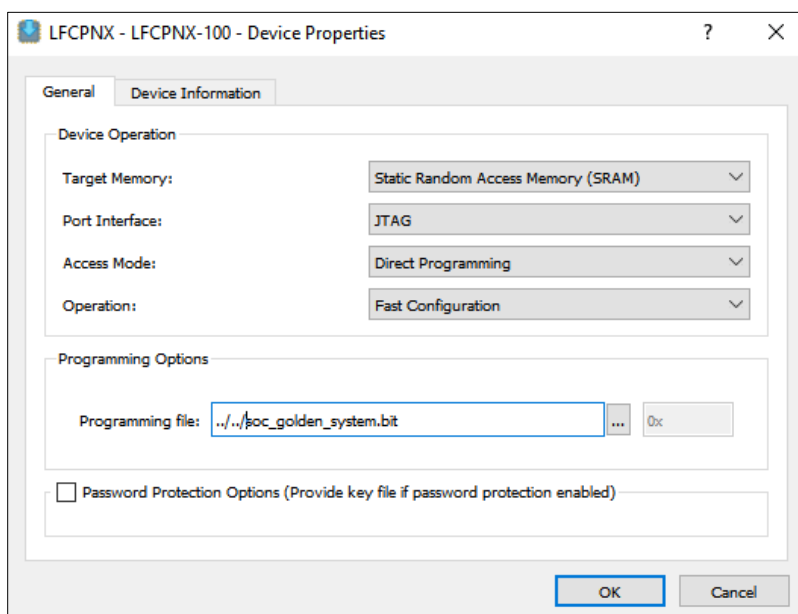

Figure 6.22. Device Properties to Program the FPGA Bitstream in SRAM
17. To program the FPGA Golden GSRD bitstream, double-click on the **Operation** tab to update the selections as shown in Figure 6.22. Make sure to provide the path to the .bit file location on your local machine where you have unzipped the executables.